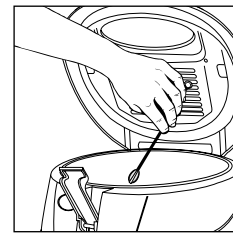

fig. 17
- A plastic hose cleaner is supplied with the product for use in cleaning the oil drainage hose (Fig. 17). It is essential that no alternative hose cleaners are used as **DAMAGE** may occur to the hose.